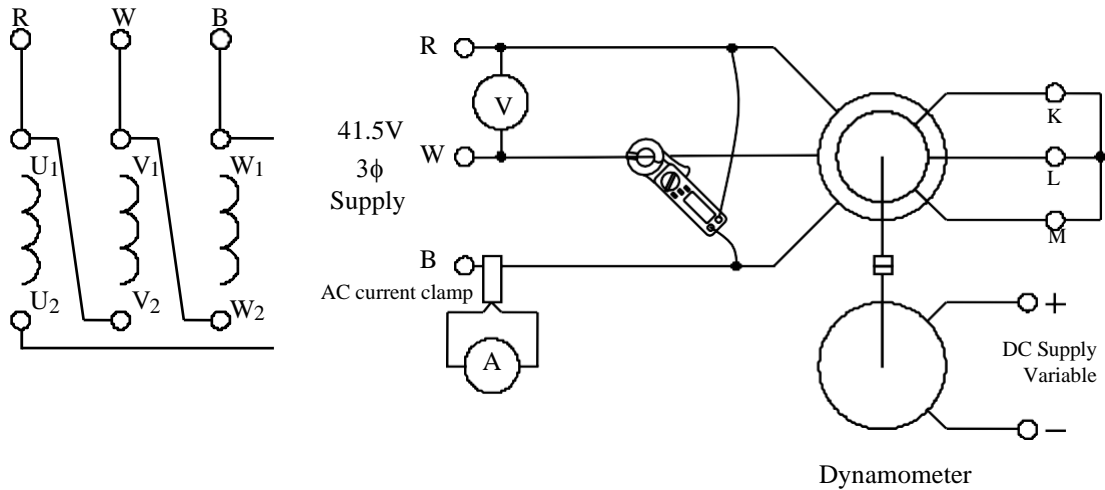

Figure 1
1. Connect the motor in delta as shown in figure 1, with the slip-rings short circuited.